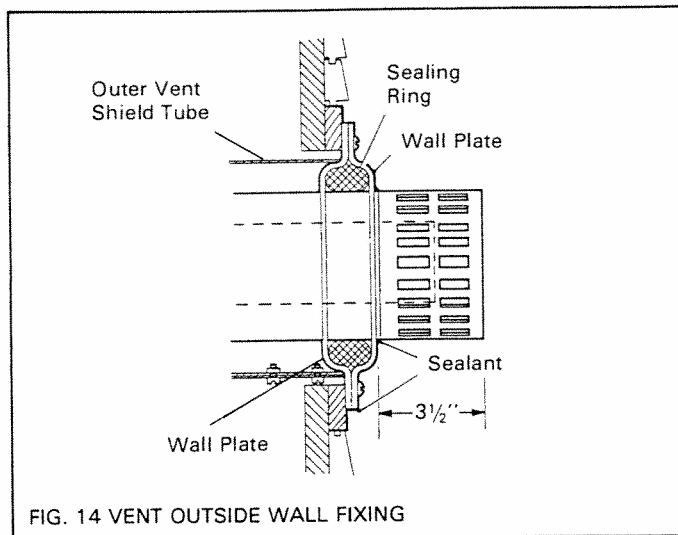

FIG. 14 VENT OUTSIDE WALL FIXING
- (e) Fit the remaining vent location plate over the vent unit with the dished projection to the outside. Line up the screw holes and start the fixing screws. Apply a clear silicone rubber sealant under the edges of the wall plate and tighten the screws. Apply a bead of silicone sealant around the vent tube where it exits the wall plate (see fig. 14).